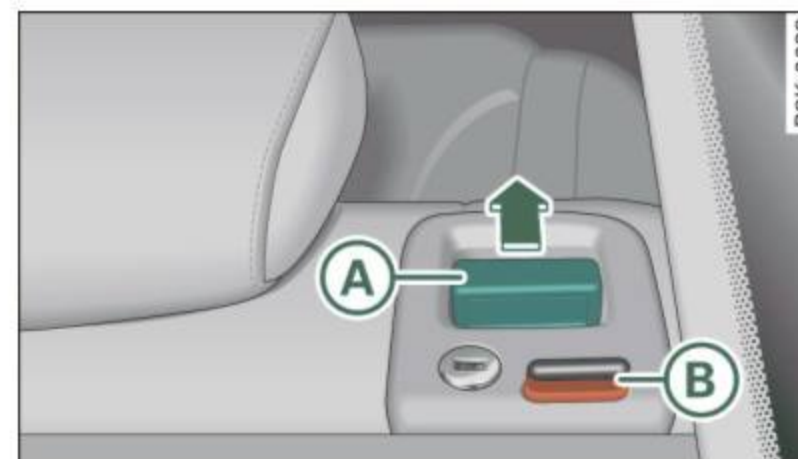

Fig. 82 Release handle on the seatback ►
- When you pull the release lever **(A)** ⇒ page 84, fig. 82 in the direction of the arrow, the safety knob **(B)** pops out far enough for the red marking on knob to be visible.